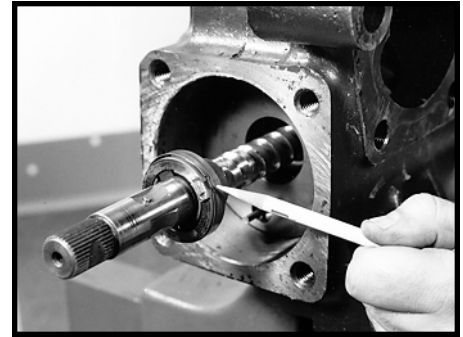

Figure 60
**WARNING: DO NOT DISASSEMBLE THE WORM SHAFT/INPUT SHAFT ASSEMBLY (17) WHICH INCLUDES THE WORM SHAFT, INPUT SHAFT, TORSION BAR, TORSION BAR PINS, DRIVE RING AND DRIVE RING RETAINER, AND INSERT. DO NOT UNBEND THE DRIVE RING RETAINER TANGS THAT HOLD THE DRIVE RING IN PLACE. SEE FIGURE 60. DOING EITHER WILL ALTER THE VALVE TIMING, WHICH COULD CAUSE THE VEHICLE TO PULL TO ONE SIDE OR THE OTHER.**